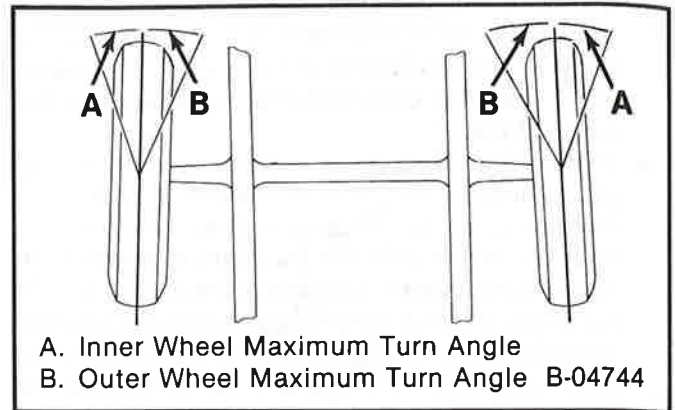

Figure 6. Stop Screw Adjustment—Definition of Terms
4. Refer to figure 6 for definition of terms. Refer to "Specifications" at the end of this section for proper readings.